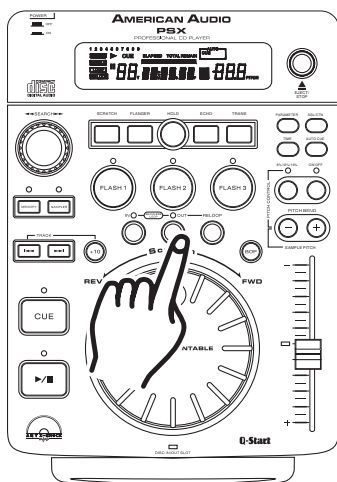

Figure 26
- 2) Press the **MEMORY BUTTON** (7). The **MEMORY CUE BUTTON** (1) Red LED will glow indicating memory is ready to be stored.
- 3) Select one of the three **FLASH BUTTON** (6) you wish to store your loop in and press that button.
- 4) The red **MEMORY BUTTON** (7) LED will turn off, when your sample is locked into memory.
- 5) At this point your sample has been stored into memory. The original loop you used to create the sample will remain playing until the **OUT BUTTON** (18) is pressed (Figure 26).